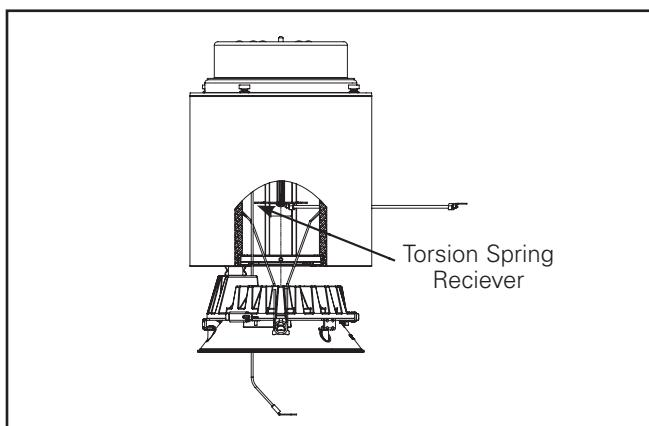

Figure 11
7. Install the LED Engine and trim assembly by inserting the torsion springs into the spring receivers located inside the housing. (Figure 11)